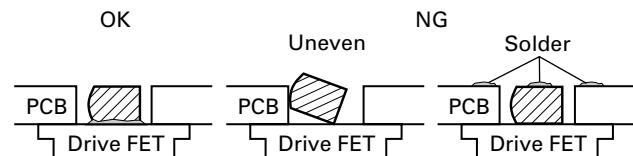

**Fig. 2**
- Place a heated soldering iron onto the top of the cube, using an iron tip 900M-T-3CF. Hold the soldering iron in position for about 5 seconds (See the figure 2).